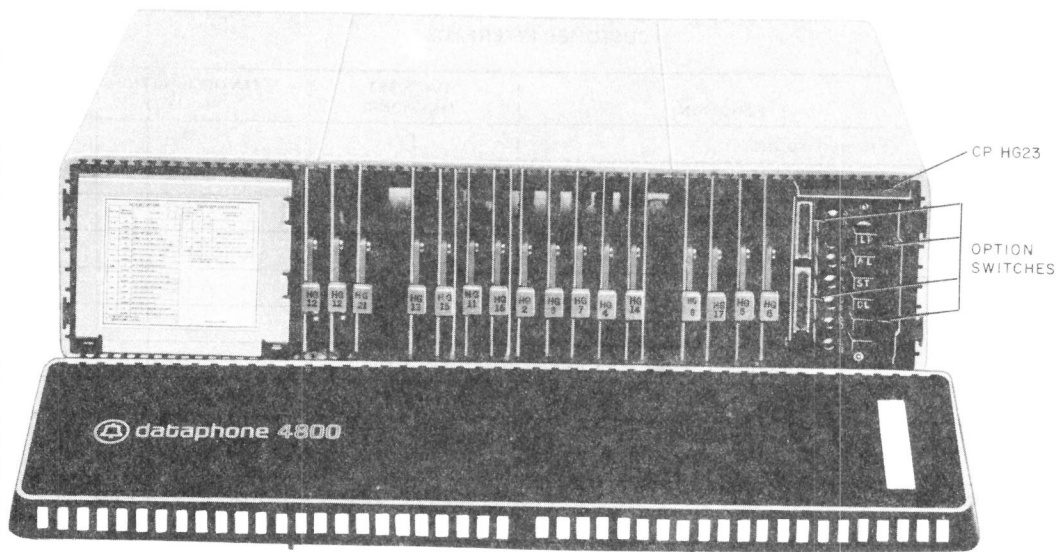

Fig. 3—DS 208A-L1A—Front View With Cover Removed
**2.08** Figure 3 shows a front view of DS 208A-L1A with the plastic cover removed, while Fig. 4 shows DS 208A-L1B.